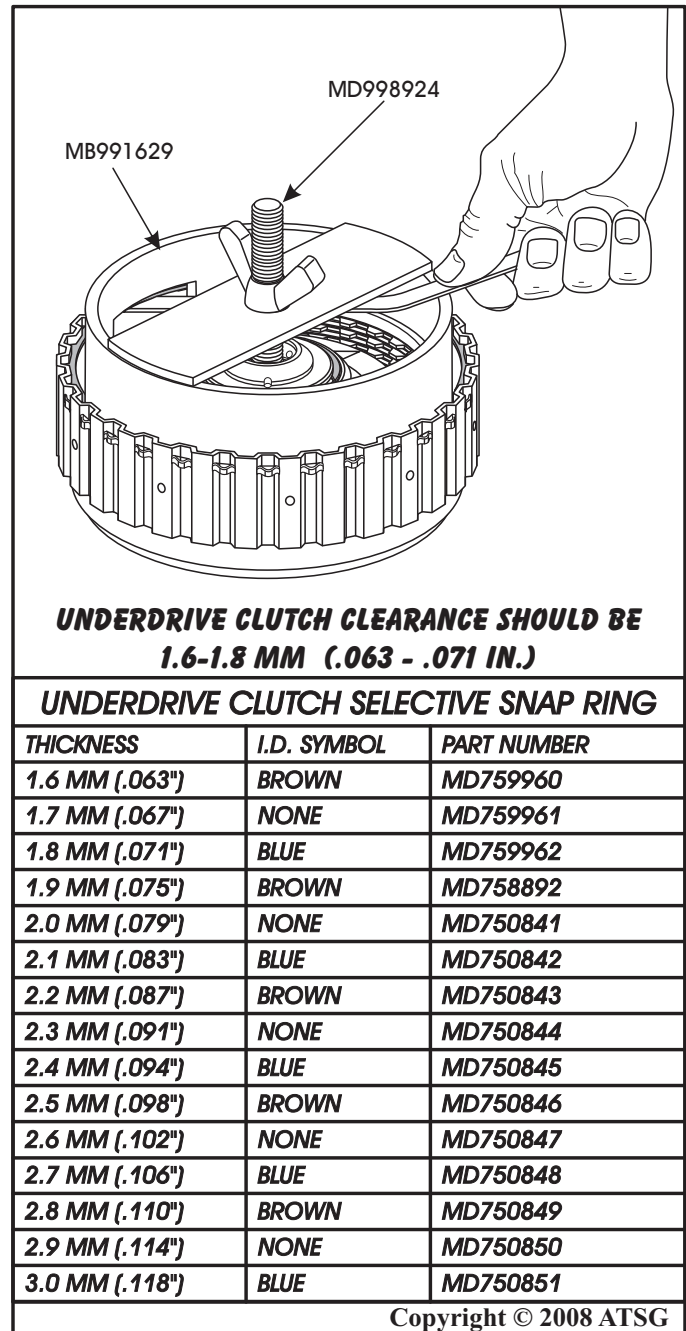

Figure 126
15. Install clutch pack compression tools, as shown in Figure 126.
- Note: Underdrive clutch plates are "Waved" on all models and must be compressed, as shown in Figure 126, to accurately measure for the proper selective snap ring.*
16. Compress the plates and measure with feeler gauge between snap ring and backing plate, as shown in Figure 126.
18. Change the selective snap ring as necessary, using the chart in Figure 126, to obtain proper underdrive clutch clearance.